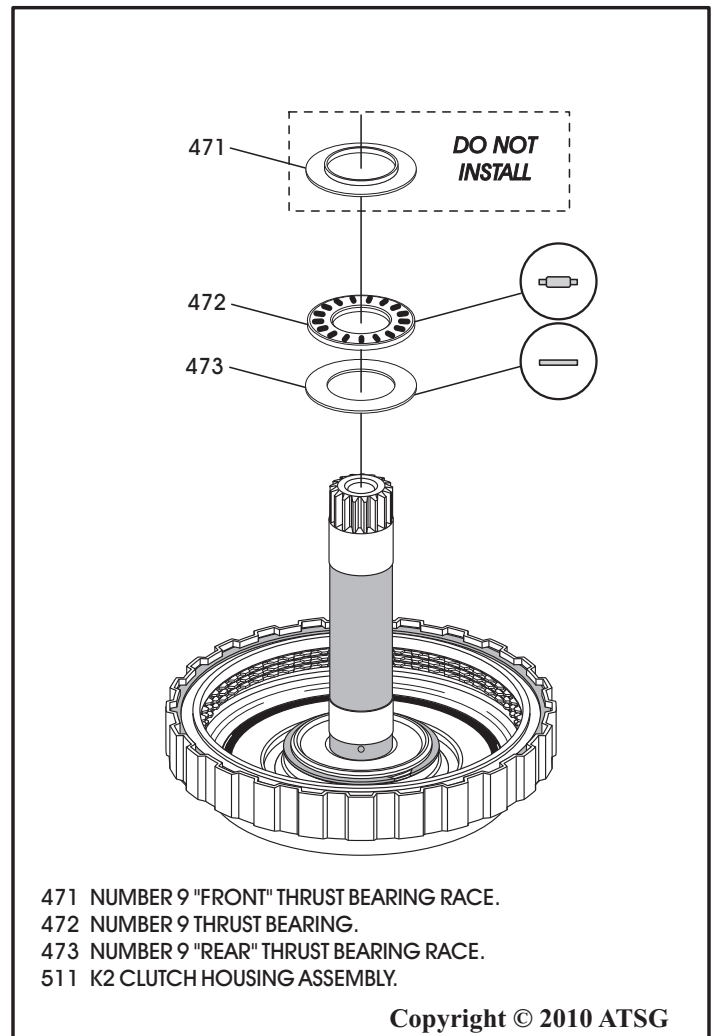

Figure 127
17. Turn the K2 clutch housing assembly over again and install the number 9 "rear" thrust bearing race, as shown in Figure 127, and retain with a small amount of Trans-Jel®.
18. Install the K2 clutch housing number 9 thrust bearing, as shown in Figure 127, and retain with Trans-Jel®.
- Note: "Do Not" install the number 9 "front" thrust bearing race (471) illustrated in Figure 127. This will be installed on the rear sun gear of the rear planetary.**